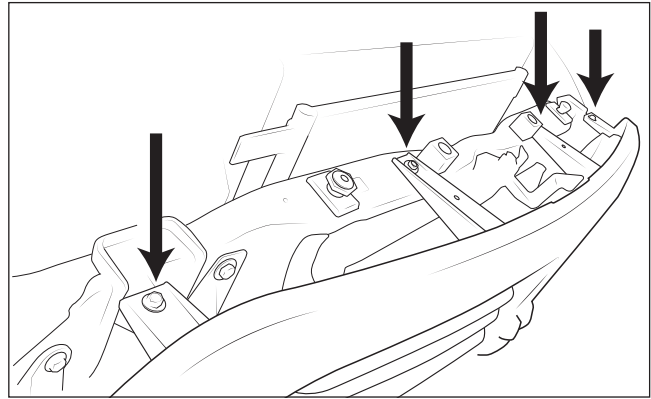

Figure 2
- B. Remove the four bolts holding the top of the grill (fig. 2).